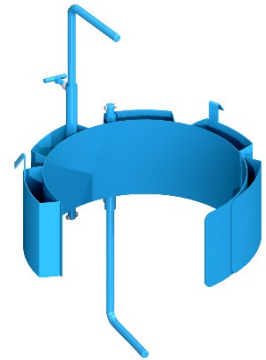

Figure 2.1
- **55/30 Series Diameter Adapters (figure 2.1)**